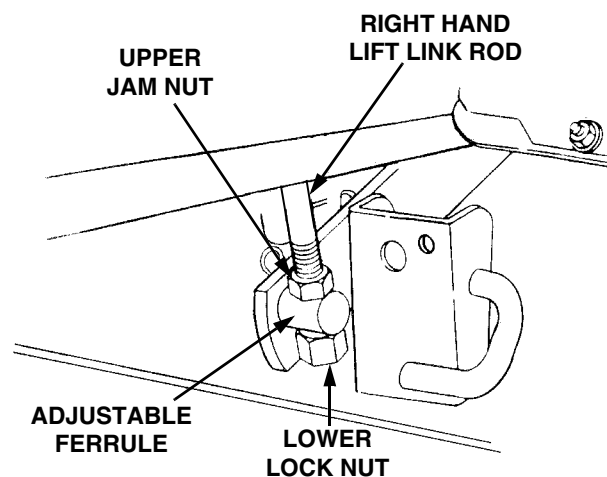

Figure 47
6. Side-to-side leveling is obtained utilizing the adjustment ferrule and right hand lift link rod (Refer to Figure 47).
7. Loosen the upper jam nut on the lift link rod and turn away from the adjustment ferrule. Turn the lower lock nut upward (tighten) on the threads of the rod to raise the right side of the mower deck. Turn the lock nut down (loosen) on the threads to lower the right side of the mower deck (See Figure 47).